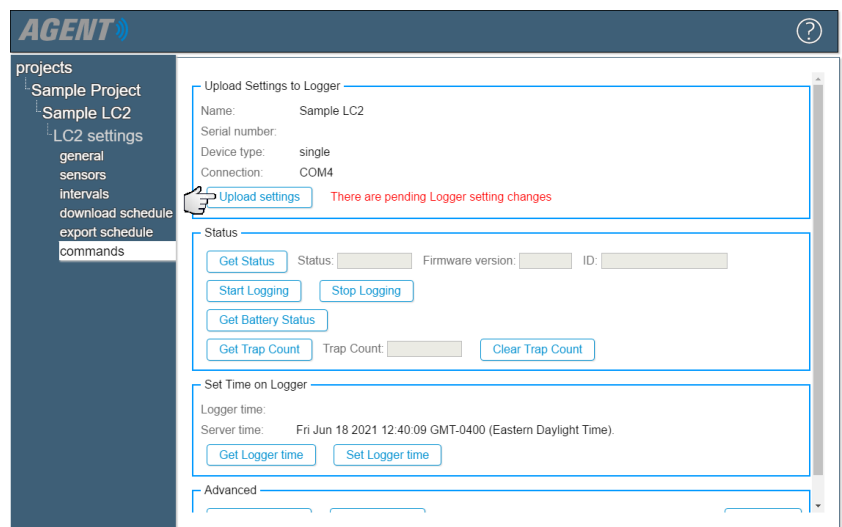

FIGURE 94: Upload Settings to the LC2
4. In the Command screen, select **Upload settings** (Figure 94). This uploads the settings and other information that was set while the logger was **Detached** to the LC2.